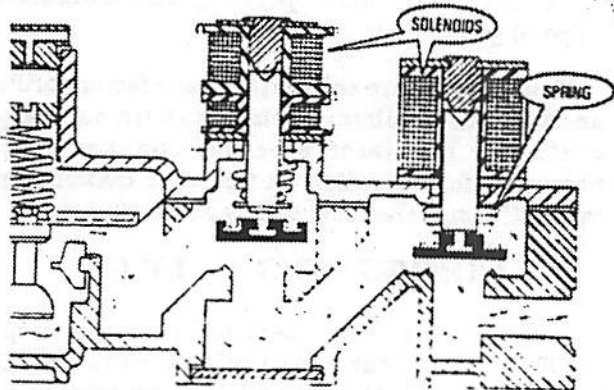

Fig. 26. Gas flow through valves.
1. Each burner assembly always has two (2) valves.
3. Both valves must be open for the burner to work. See Figure 26.